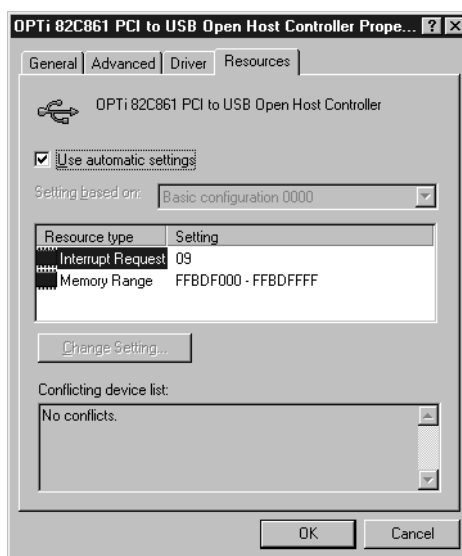

Figure C-2: USB Root Hub Properties dialog box
- Click the Resources tab (see Figure C-2). The “Conflicting device list” should show No conflicts.